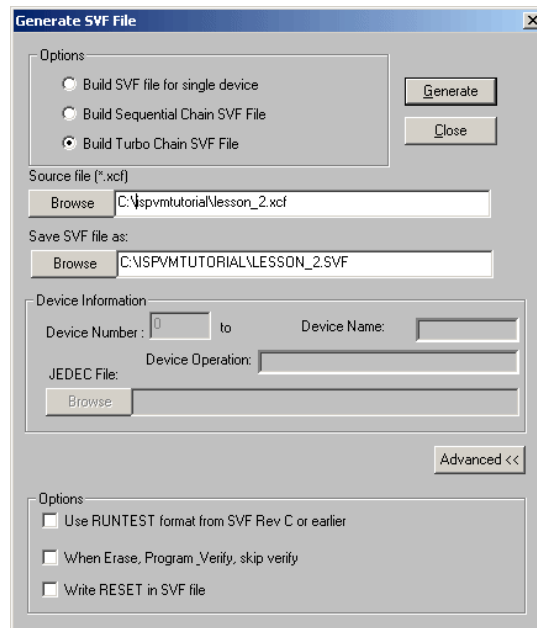

Figure 2-9. Generate SVF File Dialog
1. Choose **Project** ⇒ **Generate SVF File** to open the Generate SVF File dialog (Figure 2-9).